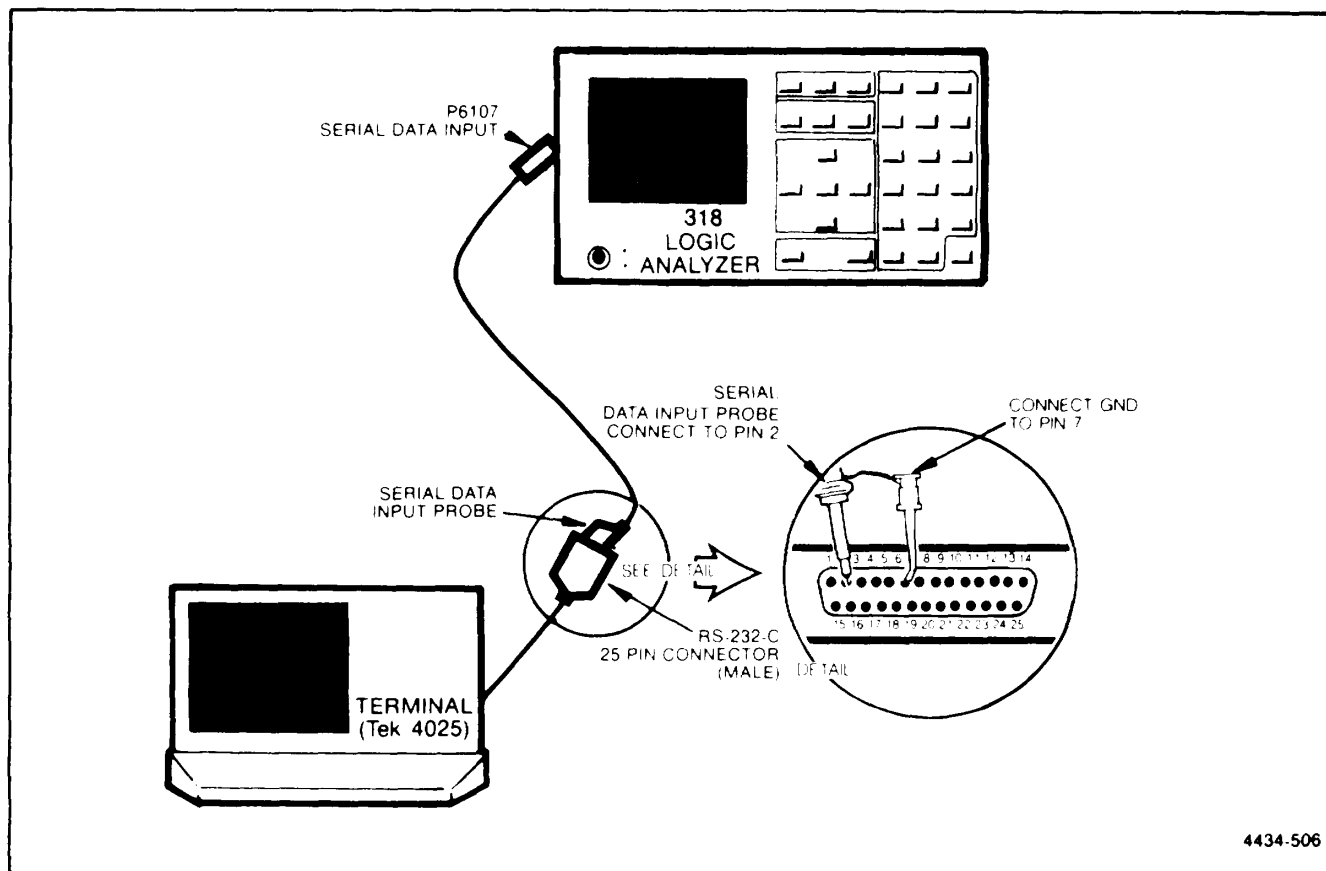

Figure 5-12. 318 Setup for serial data analysis.
- a. Connect the test setup as shown in Figure 5-12.